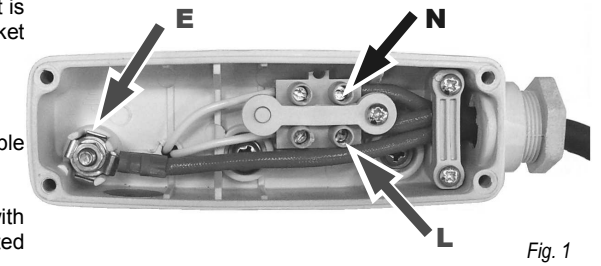

Fig. 1
2. Use a minimum of 1.0mm² H05RN-F supply cable with 2 poles and earth and sleeve with silicon glass fibre braided (250°C) Sleeving. The live and neutral wires must be connected to the terminal block. See Fig 1.